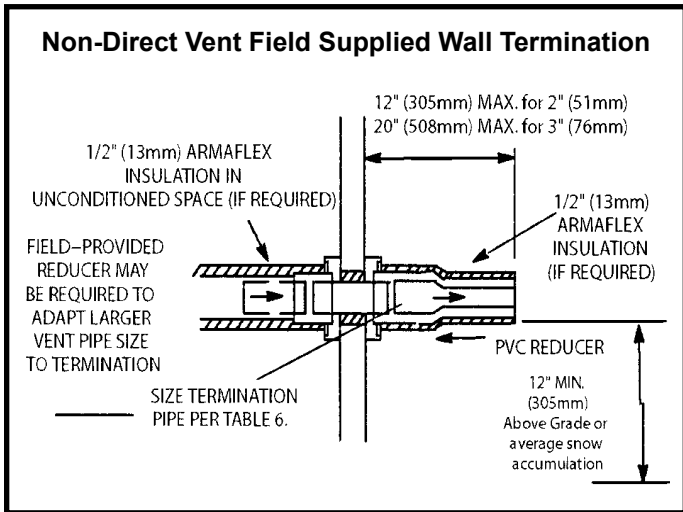

Figure 46
2. On field supplied terminations for side wall exit, exhaust piping may extend a maximum of 12 inches (305 mm) for 2" PVC and 20" (508 mm) for 3" (76 mm) PVC beyond the outside wall. See Figure 46.